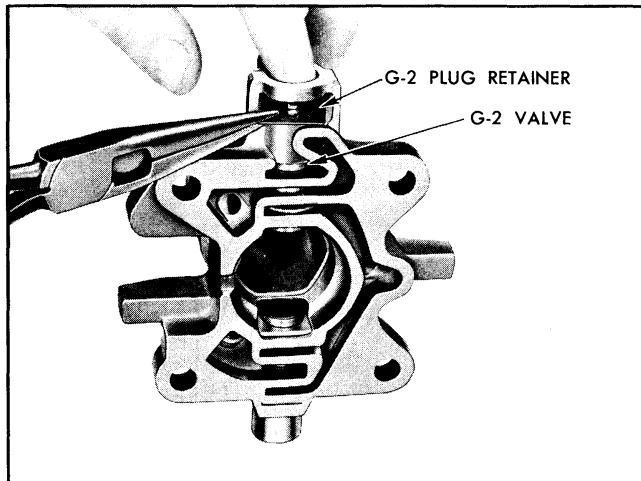

Fig. 7C-97 Removing G-2 Plug Retainer
5. Twist the rear internal gear (counter-clockwise) into the roller clutch assembly (Fig. 7C-96).